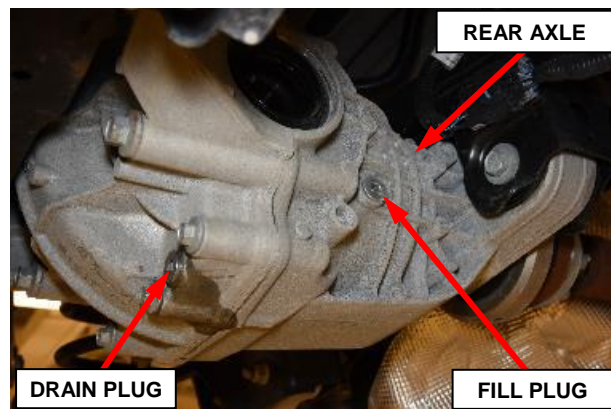

Figure 1 – Drain Plug
3. Remove the axle fluid drain plug and drain the rear axle fluid into a suitable waste oil container (Figure 1).
4. Install the axle fluid drain plug and tighten to prevent leakage (Figure 1).